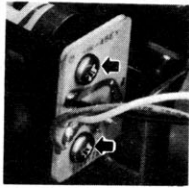

Fig. 17
- 1) Remove 2 screws. (Refer to Fig. 17)